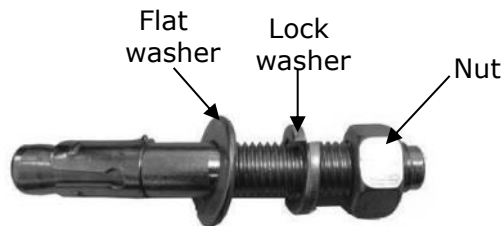

Fig. 35
- 2. Prepare the anchor bolts (See Fig. 35).